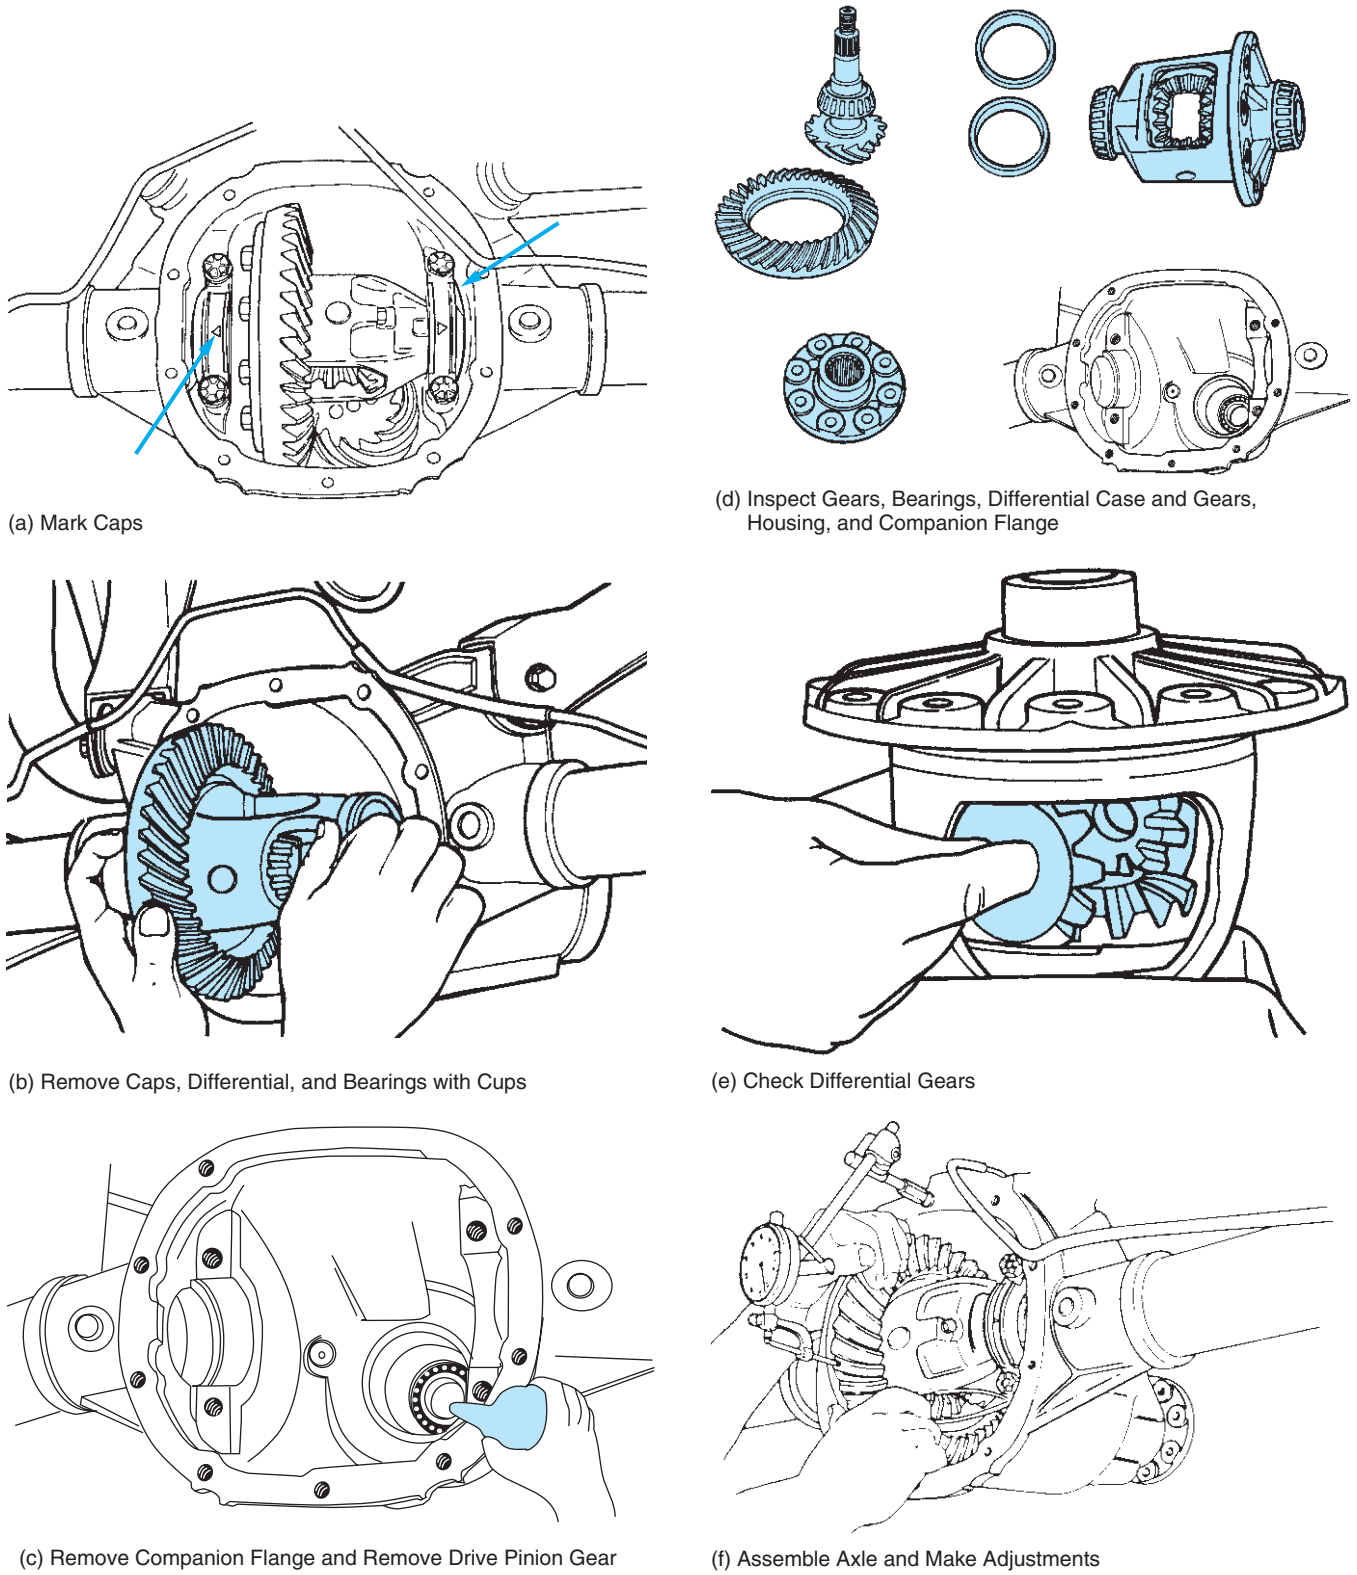

FIGURE 12-48 Procedure to overhaul an axle assembly.
- Assembly adjustments for pinion depth, pinion bearing preload, backlash, and carrier bearing preload (Figure 12-48)